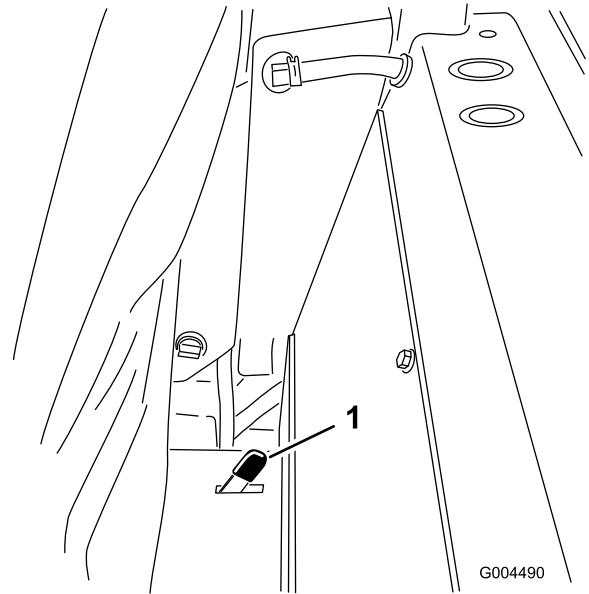

Figure 50
2. Push one of the seat latches, located behind and to the sides of the seat, rearward to unlatch the seat and pull forward on the top of the seat (Figure 50).